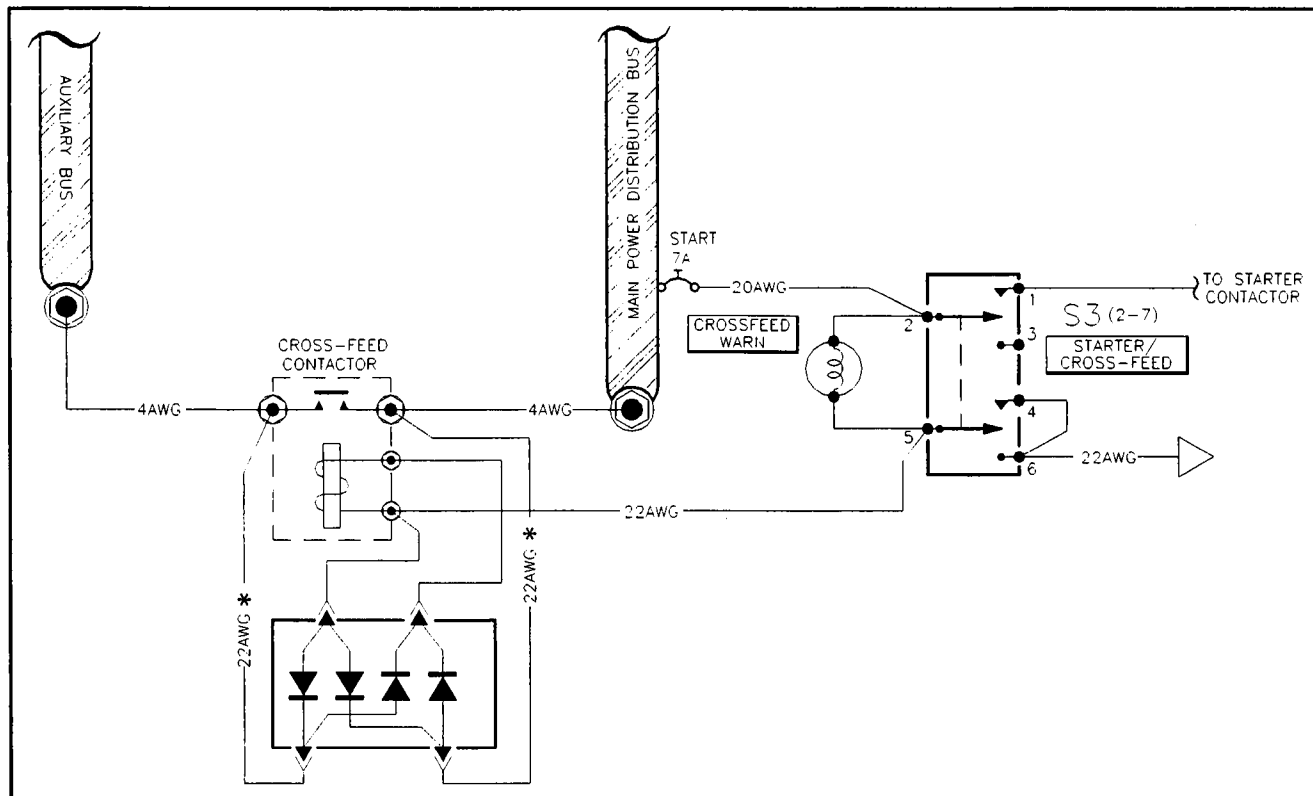

Figure 11-22. Crossfeed Contactor Wiring.
**Crossfeed Contactors** are useful when you have independent DC power systems that need to share resources from time to time. There's a dual battery, dual alternator diagram in Appendix Z that features a system crossfeed contactor. An excerpt from that diagram is shown in Figure 11-22. Here's another application for the diode bridge rectifier you see in many of my wiring diagrams. Here we're able to make use of all four diodes in the assembly. Note that a diode from the main and aux bus sides of the crossfeed contactor supplies power to the upper coil terminal. This means that EITHER bus may be used as a power source to get the contactor closed.